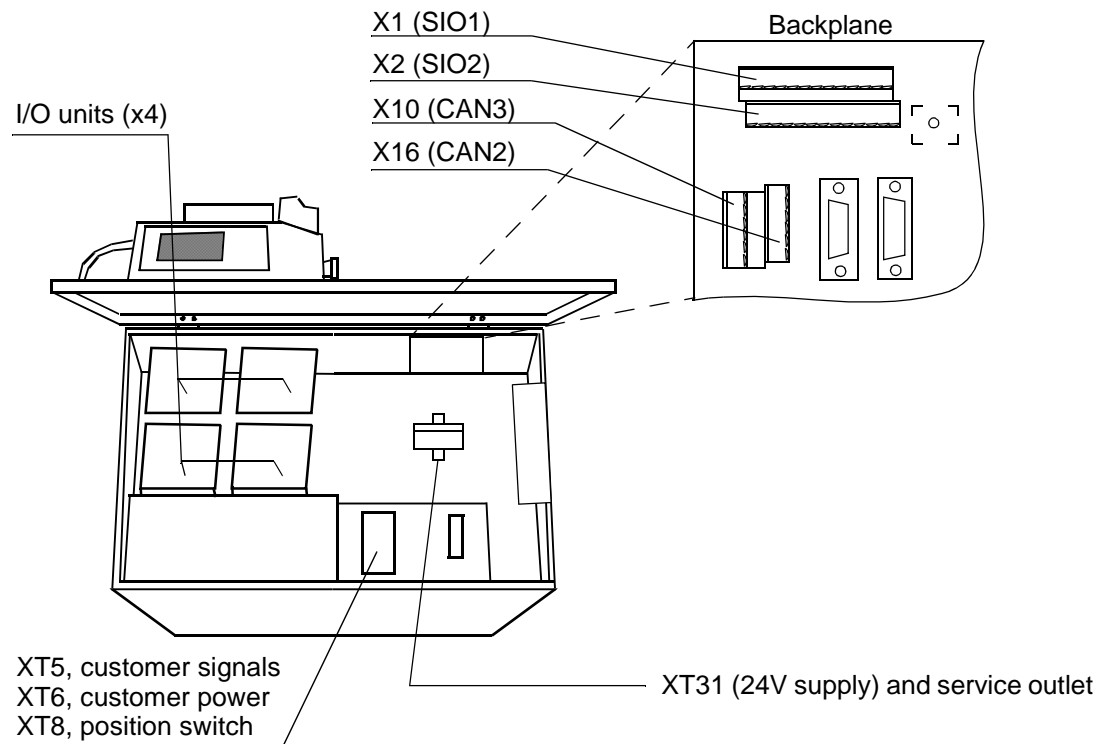

Figure 29 I/O unit and screw terminal locations.
- 67x** The signals are connected to 12-pole screw terminals, Phoenix MSTB 2.5/12-ST-5.08, to the controller (see Figure 29). Only available with option 04y.
The signals are connected directly to the I/O modules in the upper part of the cabinet (see Figure 29). Connectors Phoenix MSTB 2.5/xx-ST-5.08 (MC 1.5/xx-ST-3.81 for option 22x) or equivalent are included:
Up to 128 digital inputs and outputs, in groups of 32, can be transferred serially to a PLC equipped with an Allen Bradley 1771 RIO node adapter. The unit reduces the number of I/O units that can be mounted in cabinet by one. The field bus cables are connected directly to the A-B RIO unit in the upper part of the cabinet (see Figure 29). Connectors Phoenix MSTB 2.5/xx-ST-5.08 or equivalent are included.
Conveyor Tracking, or Line Tracking, is the function whereby the robot follows a work object which is mounted on a moving conveyor. The encoder and synchronization switch cables are connected directly to the encoder unit in the upper part of the cabinet (see Figure 29). Screw connector is included. For more information see Product Specification RobotWare.
As standard, the robot is equipped with one RS232 (SIO 1) and one RS422 (SIO 2) connector inside the cabinet. The connectors to be used (Phoenix MSTB 2.5/12-ST-5.08) are not included. See Figure 22 and Figure 29.
To increase personal safety, the service outlet can be supplied with an earth fault protection which trips at 30 mA earth current. The earth fault protection is placed next to the service outlet (see Figure 29). Voltage range: 110 - 240 V AC.